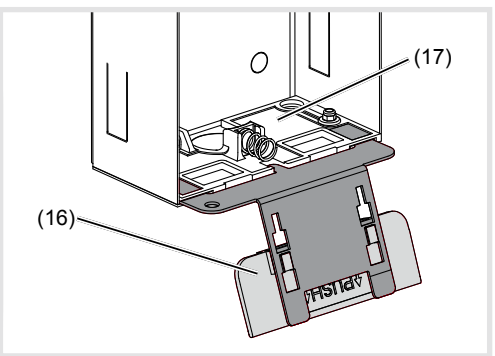

Figure 5: Inserted opening tool
- (15) Support bracket of the fastening elements
- Insert opening tool (16) into the mounting device of the lower fastening element (17) on the housing (Figure 5).
- (16) Opening tool
- (17) Fixing element
- Attach the loops of the safety rope (17) to the upper left suspension of the door station and to the upper fastening element (16) in the housing. Place the door station for installation onto the opening tool (Figure 5).